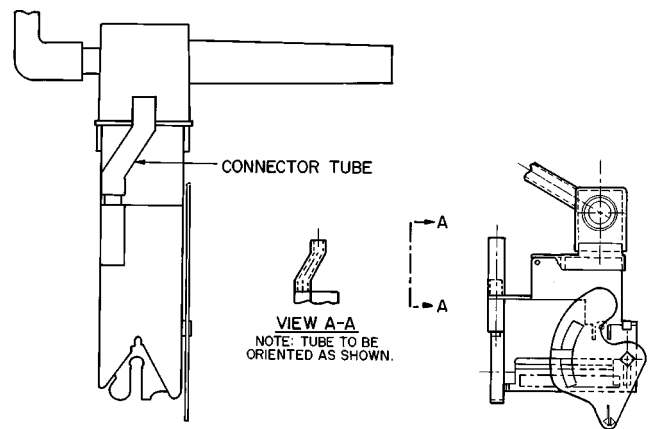
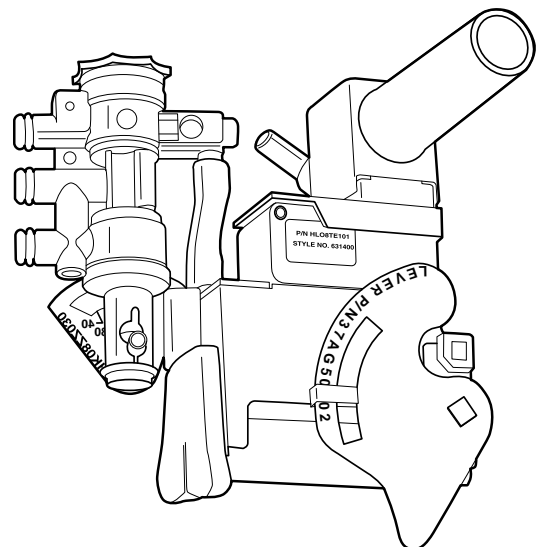

Fig. 18 — Correct Orientation of Connector Tube
Fig. 19 — Assembly of Thermostat and Volume Controller
7. Push preformed tube attached to thermostat onto port of the volume controller. Figure 18 shows the correct orientation of the tube on the thermostat and Fig. 19 shows the assembly of the 2 parts.